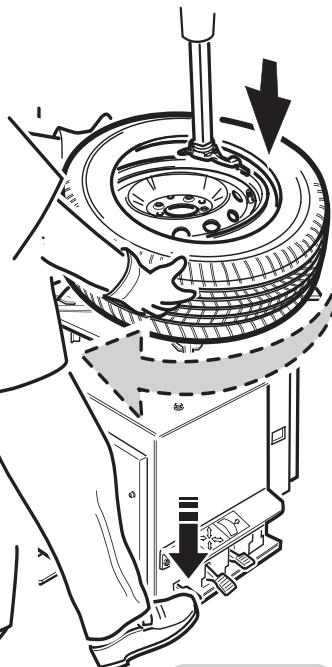

Fig.17
- Place the tire on the rim and bring the swing arm into its operating position. Position the bottom bead (as shown in Figure 17) so that it is above the rear portion of the mount/demount head and below the front portion. Depress the table top pedal to begin clockwise rotation and thus mount the bead. Use the wheel's drop centre by pushing down on the sidewall opposite the head (as shown in Figure 17) to reduce tensional force on the bead as the wheel rotates.